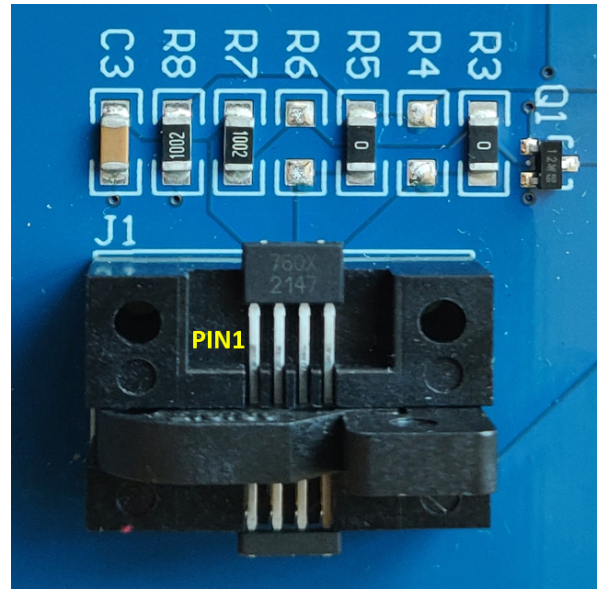

Figure 6: ACS37601 in KT socket
1. Place the ACS37601 into the J1 socket with pin1 as indicated on Figure 6.